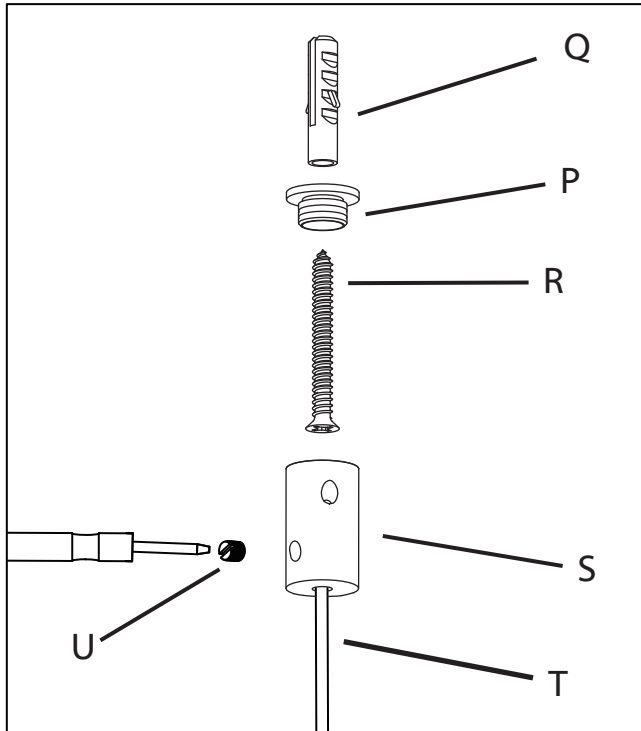
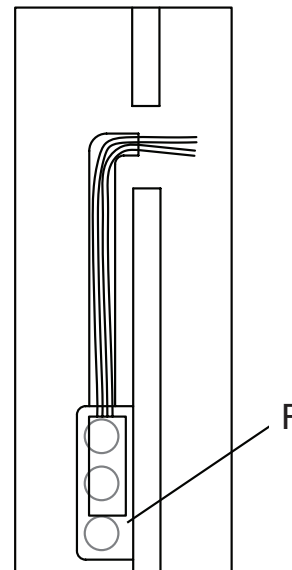

Fig. 3
Fig. 2
4. The LED driver (F) must be installed in a remote and accessible location near the fixture in accordance with local electrical code (Fig. 2).
- c. Connect the LED driver's positive (+) output wire (red) to the necessary length of red wire (not included) to reach the outlet box (A) location.
- d. Connect the LED driver's negative (-) output wire (black) to the necessary length of black wire (not included) to reach the outlet box (A) location.
5. Determine height at which the fixture (B) is to be hung, adjust power cord (G) to desired height and secure by tightening the set screw (H). Reserve extra cord in the canopy (J).
6. Attach the mounting plate (K) to the outlet box (A), secure with outlet box screws (L).
- c. Carefully place the connections in the outlet box (A).
8. Install the canopy (J) to the mounting plate (K) and secure with canopy set screws (M) using the provided Allen key (N).
9. Install the mounting bracket (P) to the ceiling with anchor (Q) and screw (R), then screw the post (S) onto the mounting bracket. Insert the cord (T) into the post, adjust to the desired height, and secure by tightening the set screw (U). Cut off the excess cord where it exits the post. (Fig. 3)
10. Restore power to the outlet box (A).